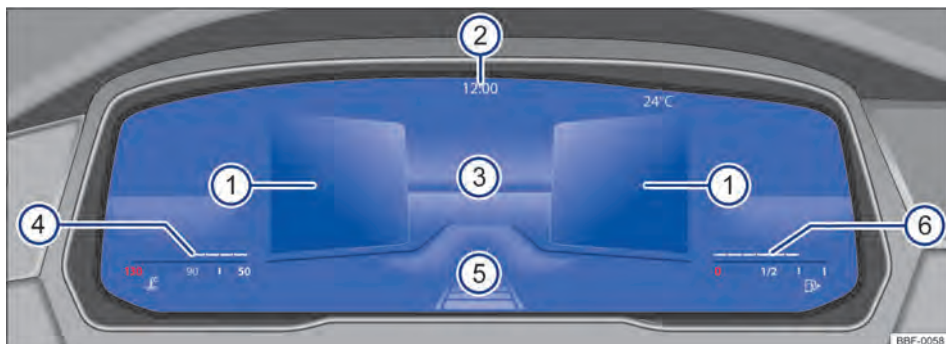

Fig. 12 Active Info Display (version 2) on the dash panel.
Explanations to the instruments → Fig. 12:
The main display → Fig. 12③ can be switched by pressing **[View]** on the multifunction steering wheel. The representation in the display area can show the following views:
- **Summary:** after completing the readiness check: displays information on vehicle status in areas ①, such as current mileage.